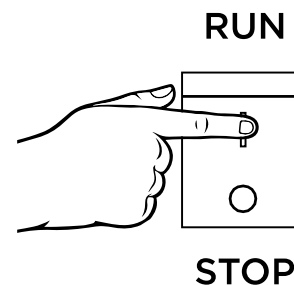

Figure 11 - Engine Switch - RUN
5. Switch the engine switch to **RUN** (see Figure 11).